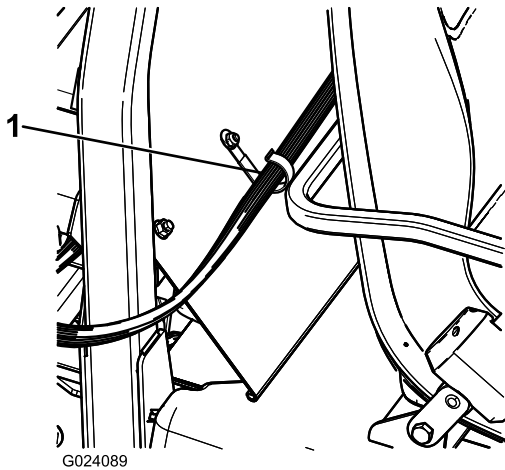

Figure 22
2. Install a J-clip behind the passenger seat (Figure 22) using a bolt (1/4 x 1/2 inch) and a flanged nut (1/4 inch).
3. Secure the control console harness to the console and ROPS cover using the J-clips (Figure 22).